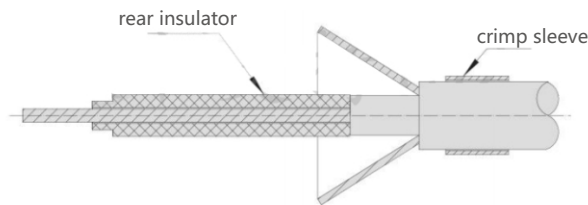

Figure 1.10
- ③ Slide the rear insulator onto the cable's central conductor as shown in Figure 1.10, and press the tail tightly against the cable's insulating dielectric.